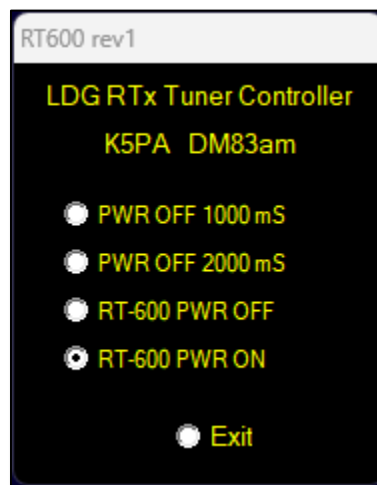

Figure 4. Main Window Display
The GUI uses radio buttons that allow selections commands, one at a time, as shown in **Figure 4**. By selecting **Exit**, all relays **will be reset to off** prior to program exit. Due to the wiring of each relay, since only the common (C) and normally closed (N.C.) contacts are used, resetting the relay module will allow the RT-600/RT-100 to be powered all the time. Thus, the program will not affect the remote tuner's normal operation.